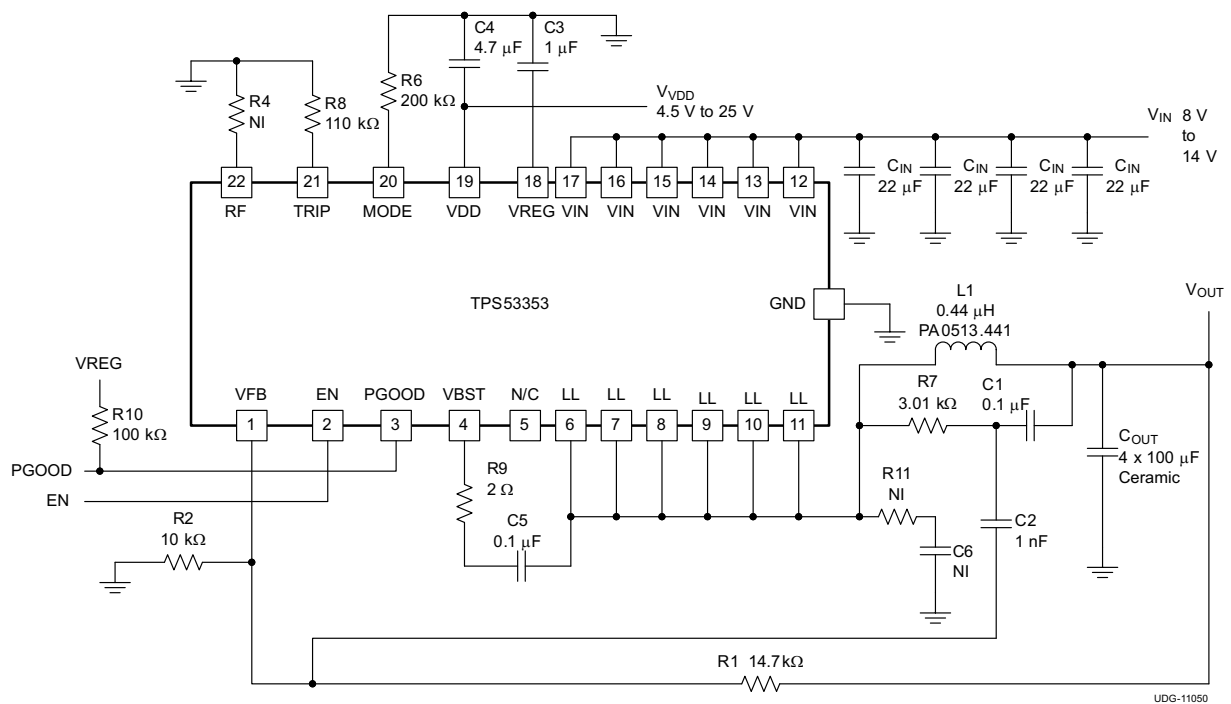

Figure 8-4. Typical Application Circuit Diagram With Ceramic Output Capacitors
When a ceramic output capacitor is used, the stability criteria in Equation 6 cannot be satisfied. The ripple injection approach as shown in Figure 8-4 is implemented to increase the ripple on the VFB pin and make the system stable. In addition to the selections made using Steps 1 through Step 5 in Section 8.2.2.2.1, the ripple injection components must be selected. The C2 value can be fixed at 1 nF. The value of C1 can be selected from 10 nF to 200 nF.
- Connect the ripple injection  $V_{OUT}$  signal ( $V_{OUT}$  side of the C1 capacitor in Figure 8-4) from the terminal of ceramic output capacitor. The AC coupling capacitor (C2 in Figure 8-4) should be placed near the device, and R7 and C1 can be placed near the power stage.